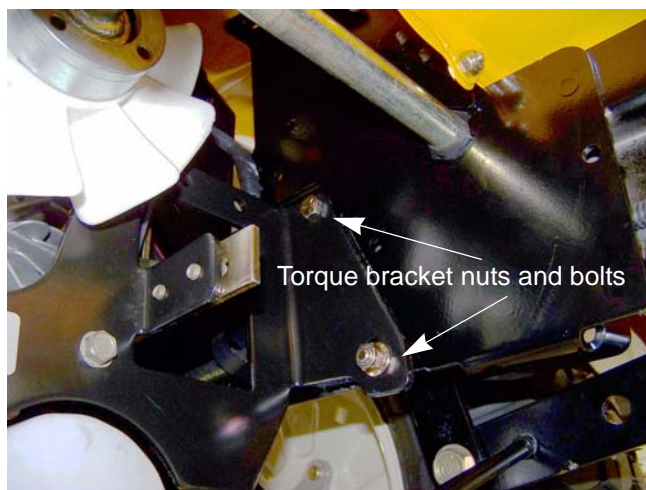

Figure 5.19
10. Remove the four nuts and bolts (two on each side) that hold the torque bracket to the frame using a pair of 1/2" wrenches. See Figure 5.19.